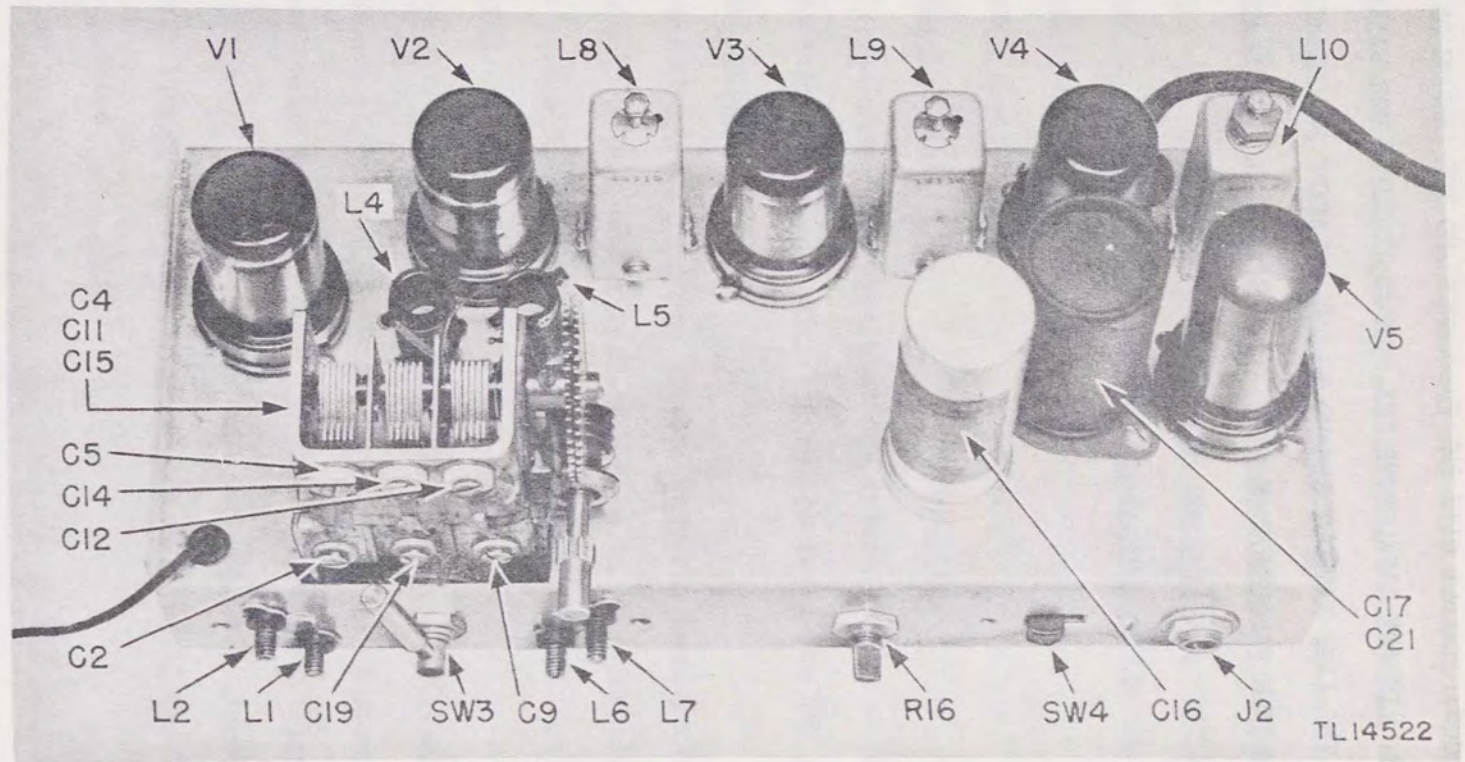

Figure 3. Radio Set AN/PRC-5, receiver chassis.
25. RECEIVER FUNCTIONING (fig. 3). In the REC position of the OFF-REC-SEND switch, the set acts as a five-tube superheterodyne receiver, exclusive of the power supply which is common to both the receiver and transmitter, consisting of one r-f amplifier stage, using a 6SK7 tube; one converter stage, using a 6SA7 tube; one i-f amplifier stage, using another 6SK7 tube; one combined diode detector and beat-frequency oscillator stage, using a 6SR7 tube; and two stages of a-f amplification using both portions of a twin-triode 6N7 tube.
**d. High-frequency Oscillator Alignment.** Realignment of the high-frequency oscillator circuits for either frequency band is seldom necessary unless the resonant frequency of the receiver, as indicated by the reading of the tuning dial, is greatly in error with respect to the actual frequency being received. The following procedure must be followed in adjusting the high-frequency oscillator trimmers. All adjustments are made with the output of the signal generator connected to the ANT and GND posts, in the upper right-hand corner of the front panel, and with the output meter connected as described in subparagraph **a** above. Always make the adjustments on band 2 first, since trimmer capacitors C5, C12, and C14 are common to both bands and their adjustment will, therefore, also affect the alignment of band 1. For location of the oscillator trimmer adjusting screws refer to figures 3 and 6.